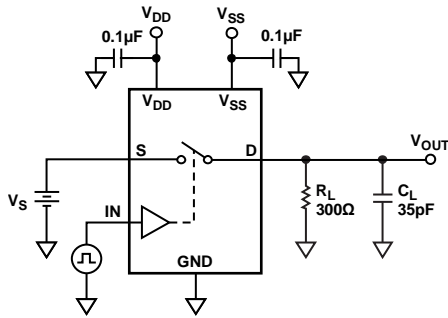

Figure 23. Switching Times,  $t_{ON}$  and  $t_{OFF}$
VD (VS) The analog voltage on Terminal D and Terminal S.	tON Delay time between the 50% and 90% points of the digital input and switch on condition. See Figure 23.
RON The ohmic resistance between Terminal D and Terminal S.	tOFF Delay time between the 50% and 90% points of the digital input and switch off condition. See Figure 23.